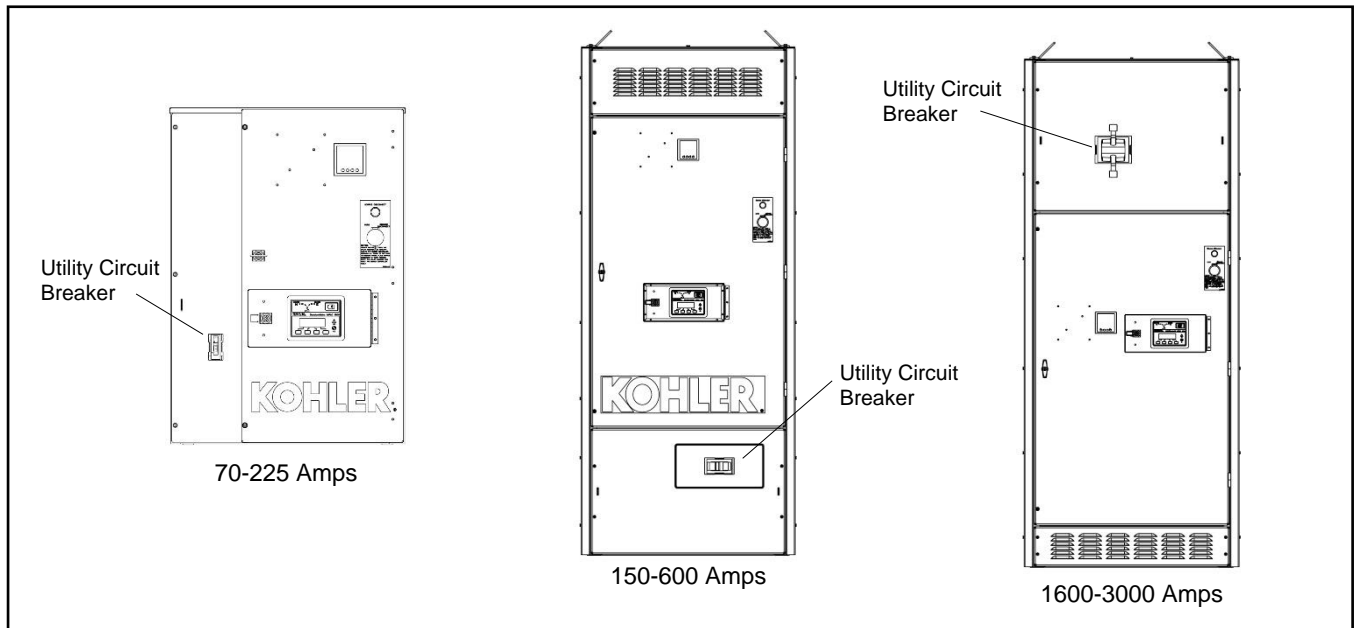

Figure 64 Utility Circuit Breaker Locations, Typical
The utility circuit breaker is located on the front of the ATS. On NEMA Type 1 enclosures, the circuit breaker can be reset without opening the ATS enclosure. For other enclosure types, open the outer enclosure door to access the circuit breaker handle. See Figure 64 for typical circuit breaker locations. To reset the circuit breaker, move the handle to OFF (0), and then ON (I). Some breakers have a handle that can fold down when not in use. Lift the handle before moving it to OFF. Fold the handle back down after moving it to ON.